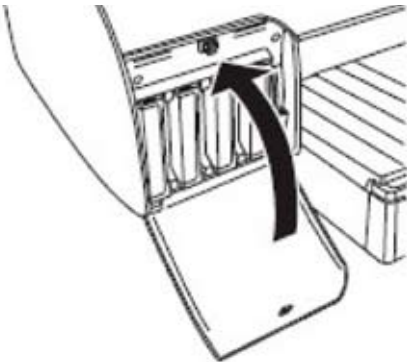

Figure 10
7. Close the ink compartment cover if you have standard size ink cartridges installed. (Fig. 10) If you have extended cartridges installed in the printer, (Fig. 11), you will need to leave the cover open.